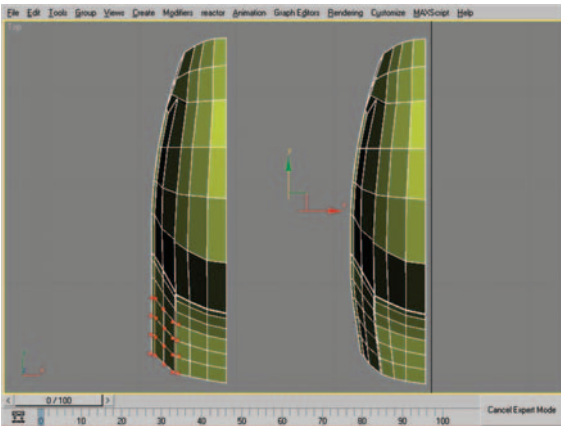

Figure 8.48 Vertices to select and move (left) and resulting mesh (right).
49. In the top viewport, select the vertices in the seat area (Figure 8.48, left), and with the Move tool move them to create the configuration seen in Figure 8.48 (right). This creates a taper to the seat area.